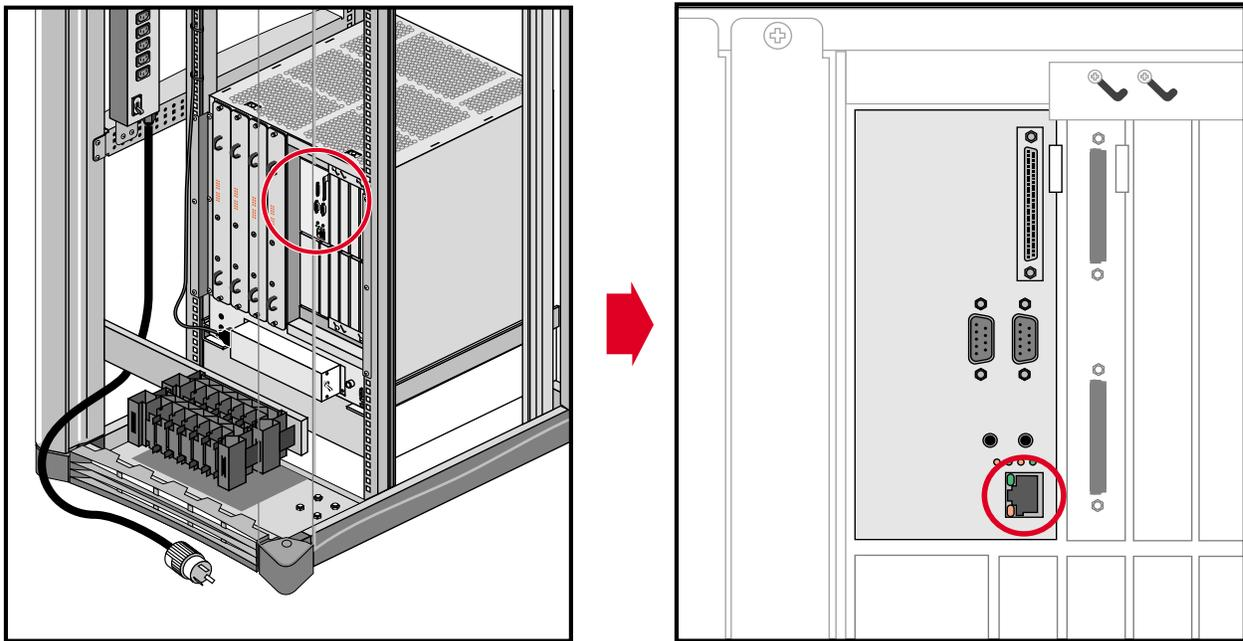

Figure 5-5 Connecting Ethernet to the Origin2000
2. Plug the cable into the applicable connector (see Figure 5-5).